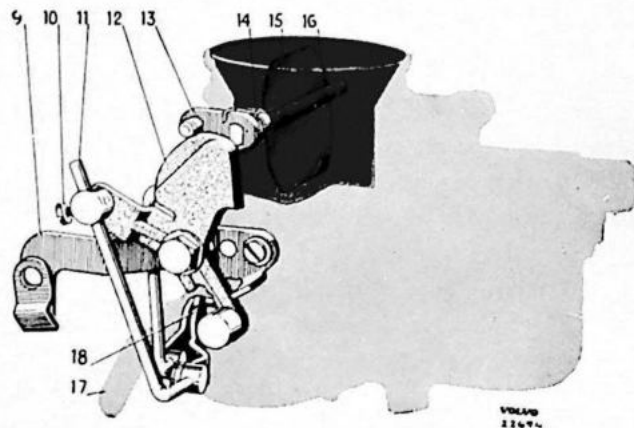

Fig. 11. Choke device and rapid idling.
In order to enrich the fuel/air mixture when starting a cold engine there is a choke device which is operated from a control on the instrument panel. When this control knob is pulled out for starting it influences the cam-formed lever (12, Fig. 11). The choke flap (15) is influenced by the spring (14) on the choke spindle so that it closes resulting in a more powerful vacuum and thereby a greater fuel flow. When the engine has started and the degree of vacuum has increased, the choke can open to a certain extent since a closing force is obtained from a spring on the choke spindle. This avoids an excessively rich fuel mixture.